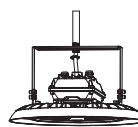

Figure 10
3. Re-screw the nuts. (Figure10)